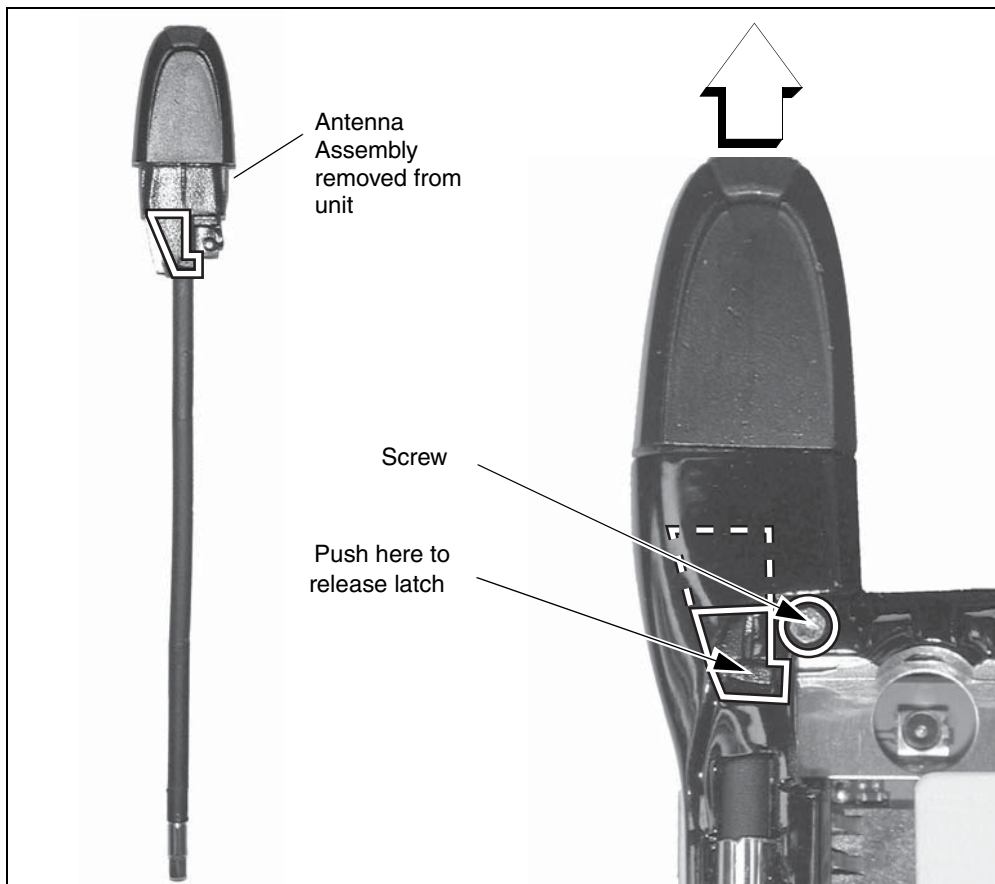

Figure 7-6.
1. Locate screw and insert T-4 bit, turn counterclockwise to remove (see Figure 7-6).